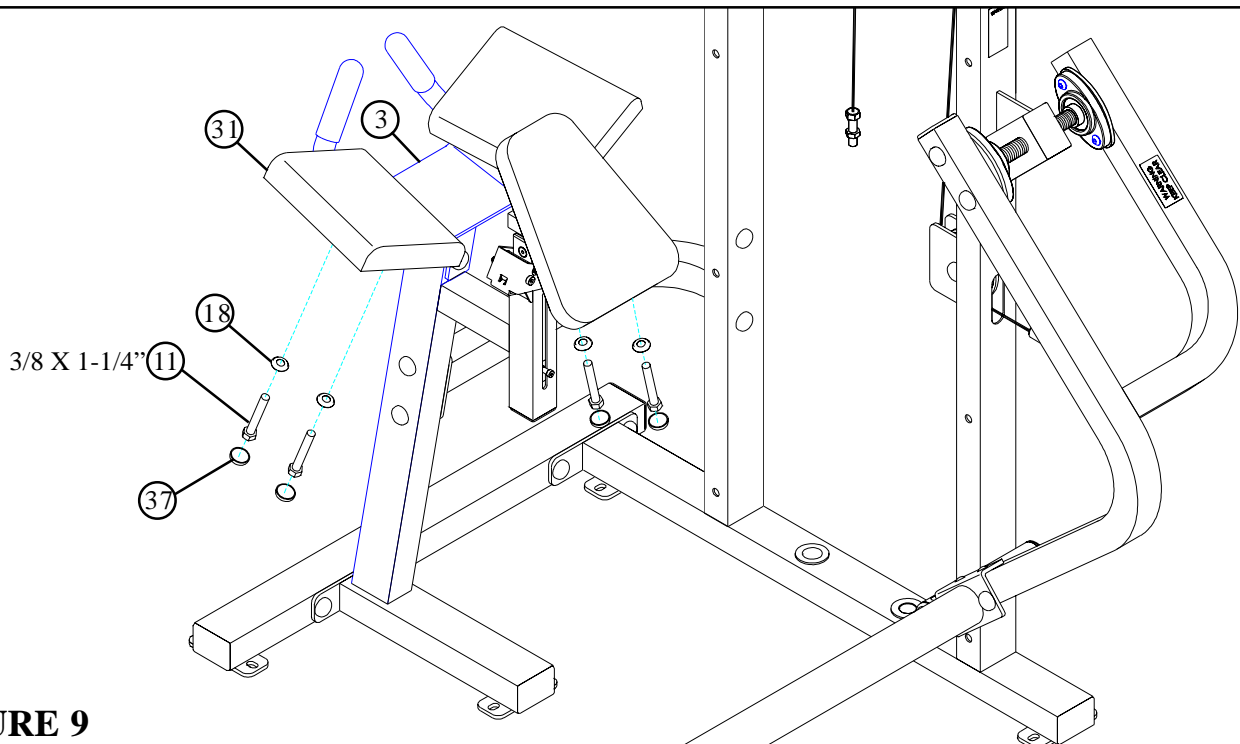

FIGURE 9
- **SECURELY** assemble the ARM PADS (31) to the HANDLE (3) using four RH CAPS (37), four 3/8 X 1-1/4" BOLTS (11) and four 3/8" RH WASHERS (18) as shown in FIGURE 9.